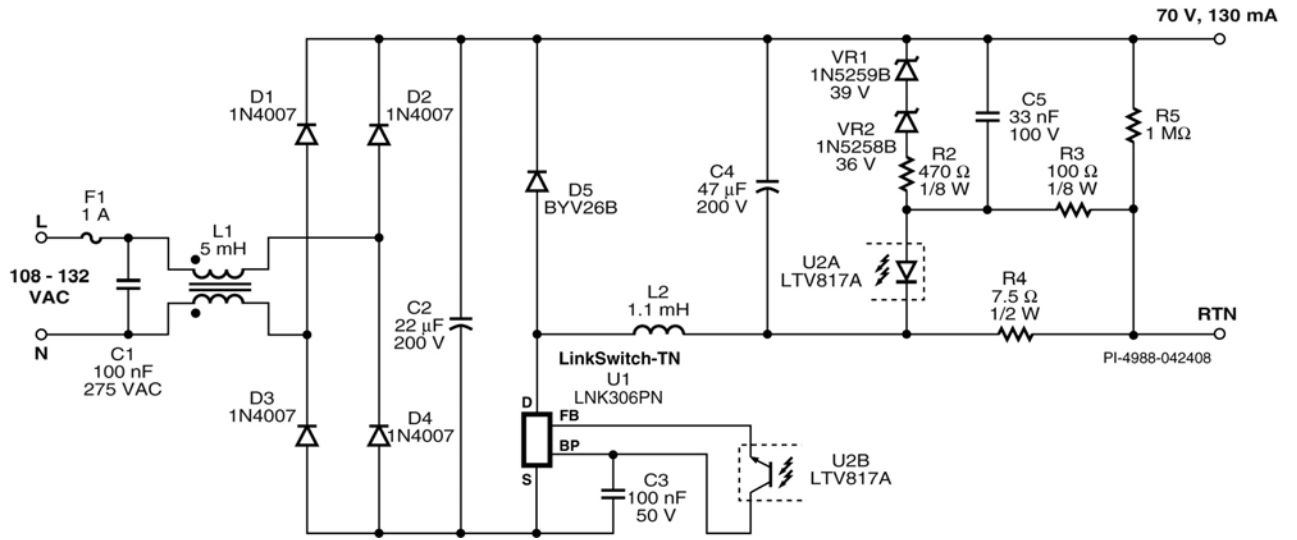

Figure 2 – Schematic.
The power supply shown in Figure 2 uses the LNK306PN (U1) in a low-side buck configuration to deliver a constant 130 mA current at a voltage of 70 VDC. The supply is optimal for driving LEDs, which should always be driven with a constant current (CC) rather than a constant voltage (CV) source.